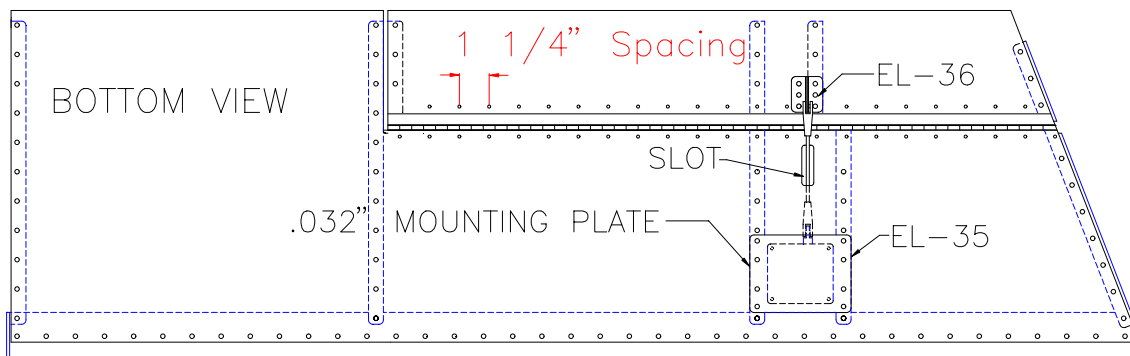

Figure 6.3.1
- 1) Mount the servo and backing plate (EL-35) with 1/8" rivets (RV-1410) as in figure 6.3.1. Use the holes in the servo as drill guides.
- 2) Cut a hole in the bottom of the skin between the two ribs just large enough for the servo to fit through. Figure 6.3.1.